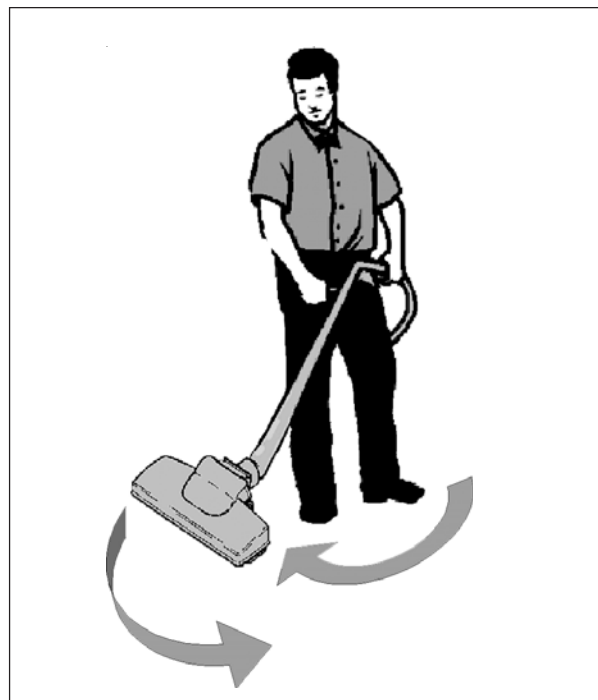

Figure 2
5. Practice the vacuuming technique using a side to side sweeping motion. See figure 2.